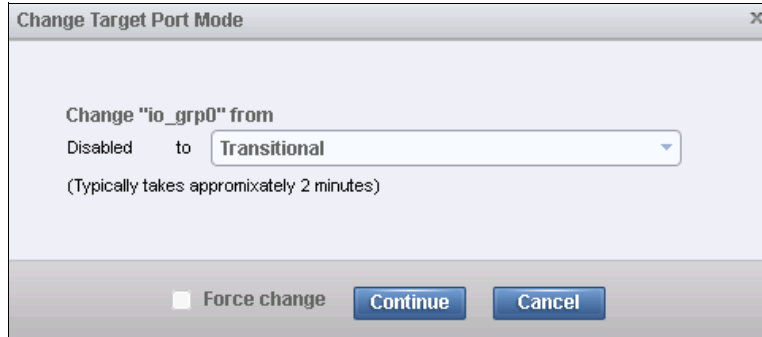

Figure 7-24 Change to Transitional
- The Change Target Port Mode wizard offers only a change from Disabled to Transitional (Figure 7-24). In Transitional mode, both physical and virtual ports are in use. Click **Continue** to enable Transitional mode.